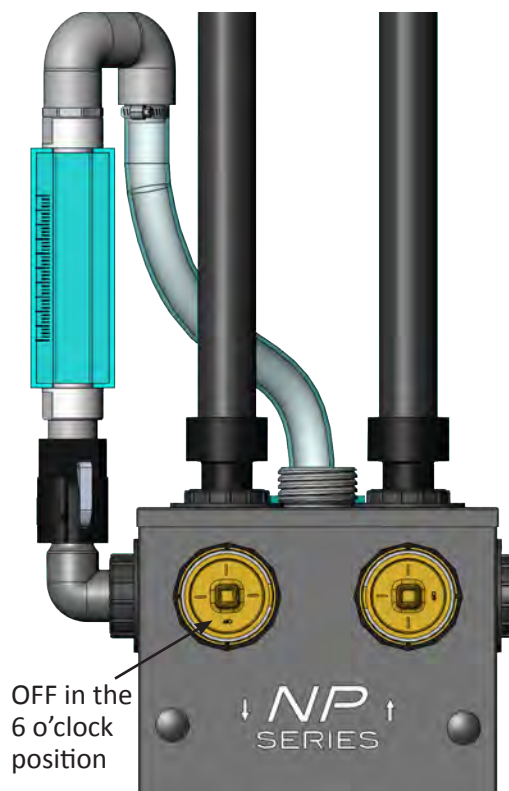

Figure 21: Using Geo-Meter
3. Rotate valve #2 so that OFF is in the 6 o'clock position. This directs the fluid through the Geo-Meter. Be sure the Geo-Meter is vertical. (Figure 21).